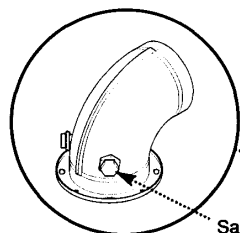

Fig. 42
3. Whilst the boiler is running measure the CO and CO2 content of the flue products by removing the RH sample screw on the flue elbow and insert a suitable sampling probe (Fig. 42). If the CO/CO2 ratio is greater than 0.035 then further servicing and investigation is required.